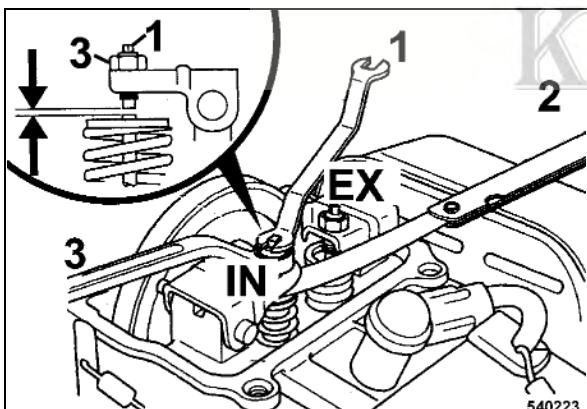

Fig. 49 □
- To adjust the valve hold valve adjustment screw (Fig. 49) and slacken locking screw (2).